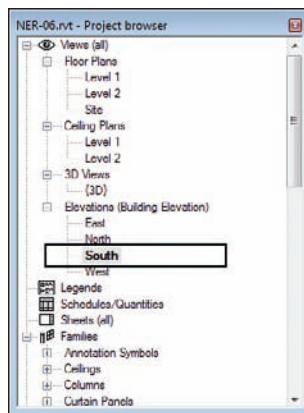

FIGURE 3.1 Finding an elevation in the Project Browser
1. In the Project Browser, double-click on the South elevation. It is located under Elevations (Building Elevations), as shown in Figure 3.1.